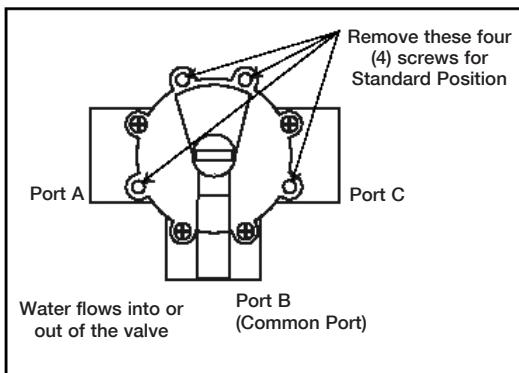
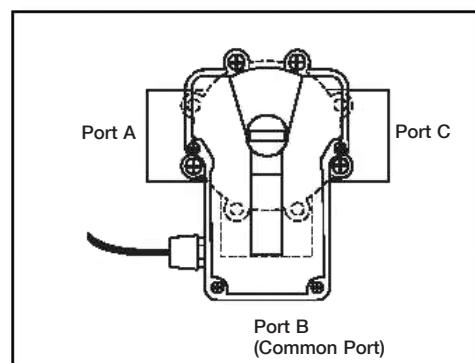
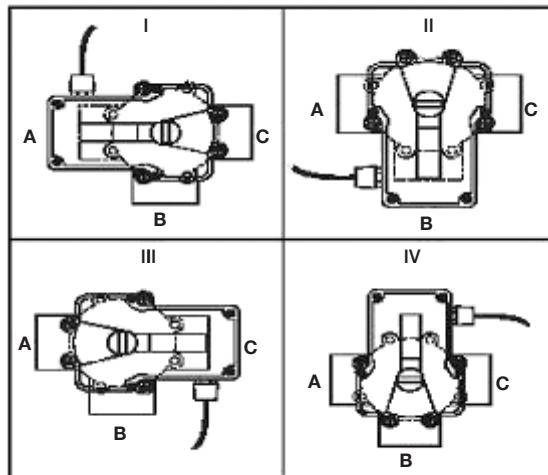

Figure 1. Standard Plumbing.
Figure 2. Standard Mounting.
Figure 3. Mounting Positions.
1. **Standard Plumbing** of a three-port valve is the port B (middle) being the incoming (common) port and A and C ports are the outlet ports (See figure 1).
2. **Standard Actuator Mounting** position is when the main body of the Actuator is over port B (See figure 2).
NOTE: If the valve is plumbed as in Figure 1 and the Actuator is mounted as in Figure 2 below, the factory setting of Actuator cams need no adjustment.
3. The Actuator can be mounted on top of a valve in four different positions (See figure 3). Depending on the plumbing of the valve and mounting position of the Actuator, the cams inside the Actuator have to be reset.
2. Depending on mounting position selected, (See figure 3), remove (4) Philip head screws from valve body. (See figure 1).
1. Find the mounting position of the Actuator in Figure 3, Page 2.